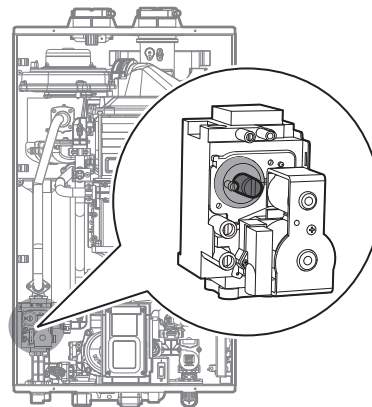

Figure 8. Set Screw Location
- Fully open several hot water fixtures and set the water heater to operate at 1-stage MIN mode (refer to page 59). Measure the CO₂ value at low fire. If the CO₂ value is not within 0.5% of the value listed in Table 2, the gas valve set screw will need to be adjusted. If adjustment is necessary, locate the set screw as shown in Figure 8. Using a $\frac{5}{32}$ in or 4 mm Allen wrench, turn the set screw no more than $\frac{1}{4}$ turn clockwise to raise or counterclockwise to lower the CO₂ value.